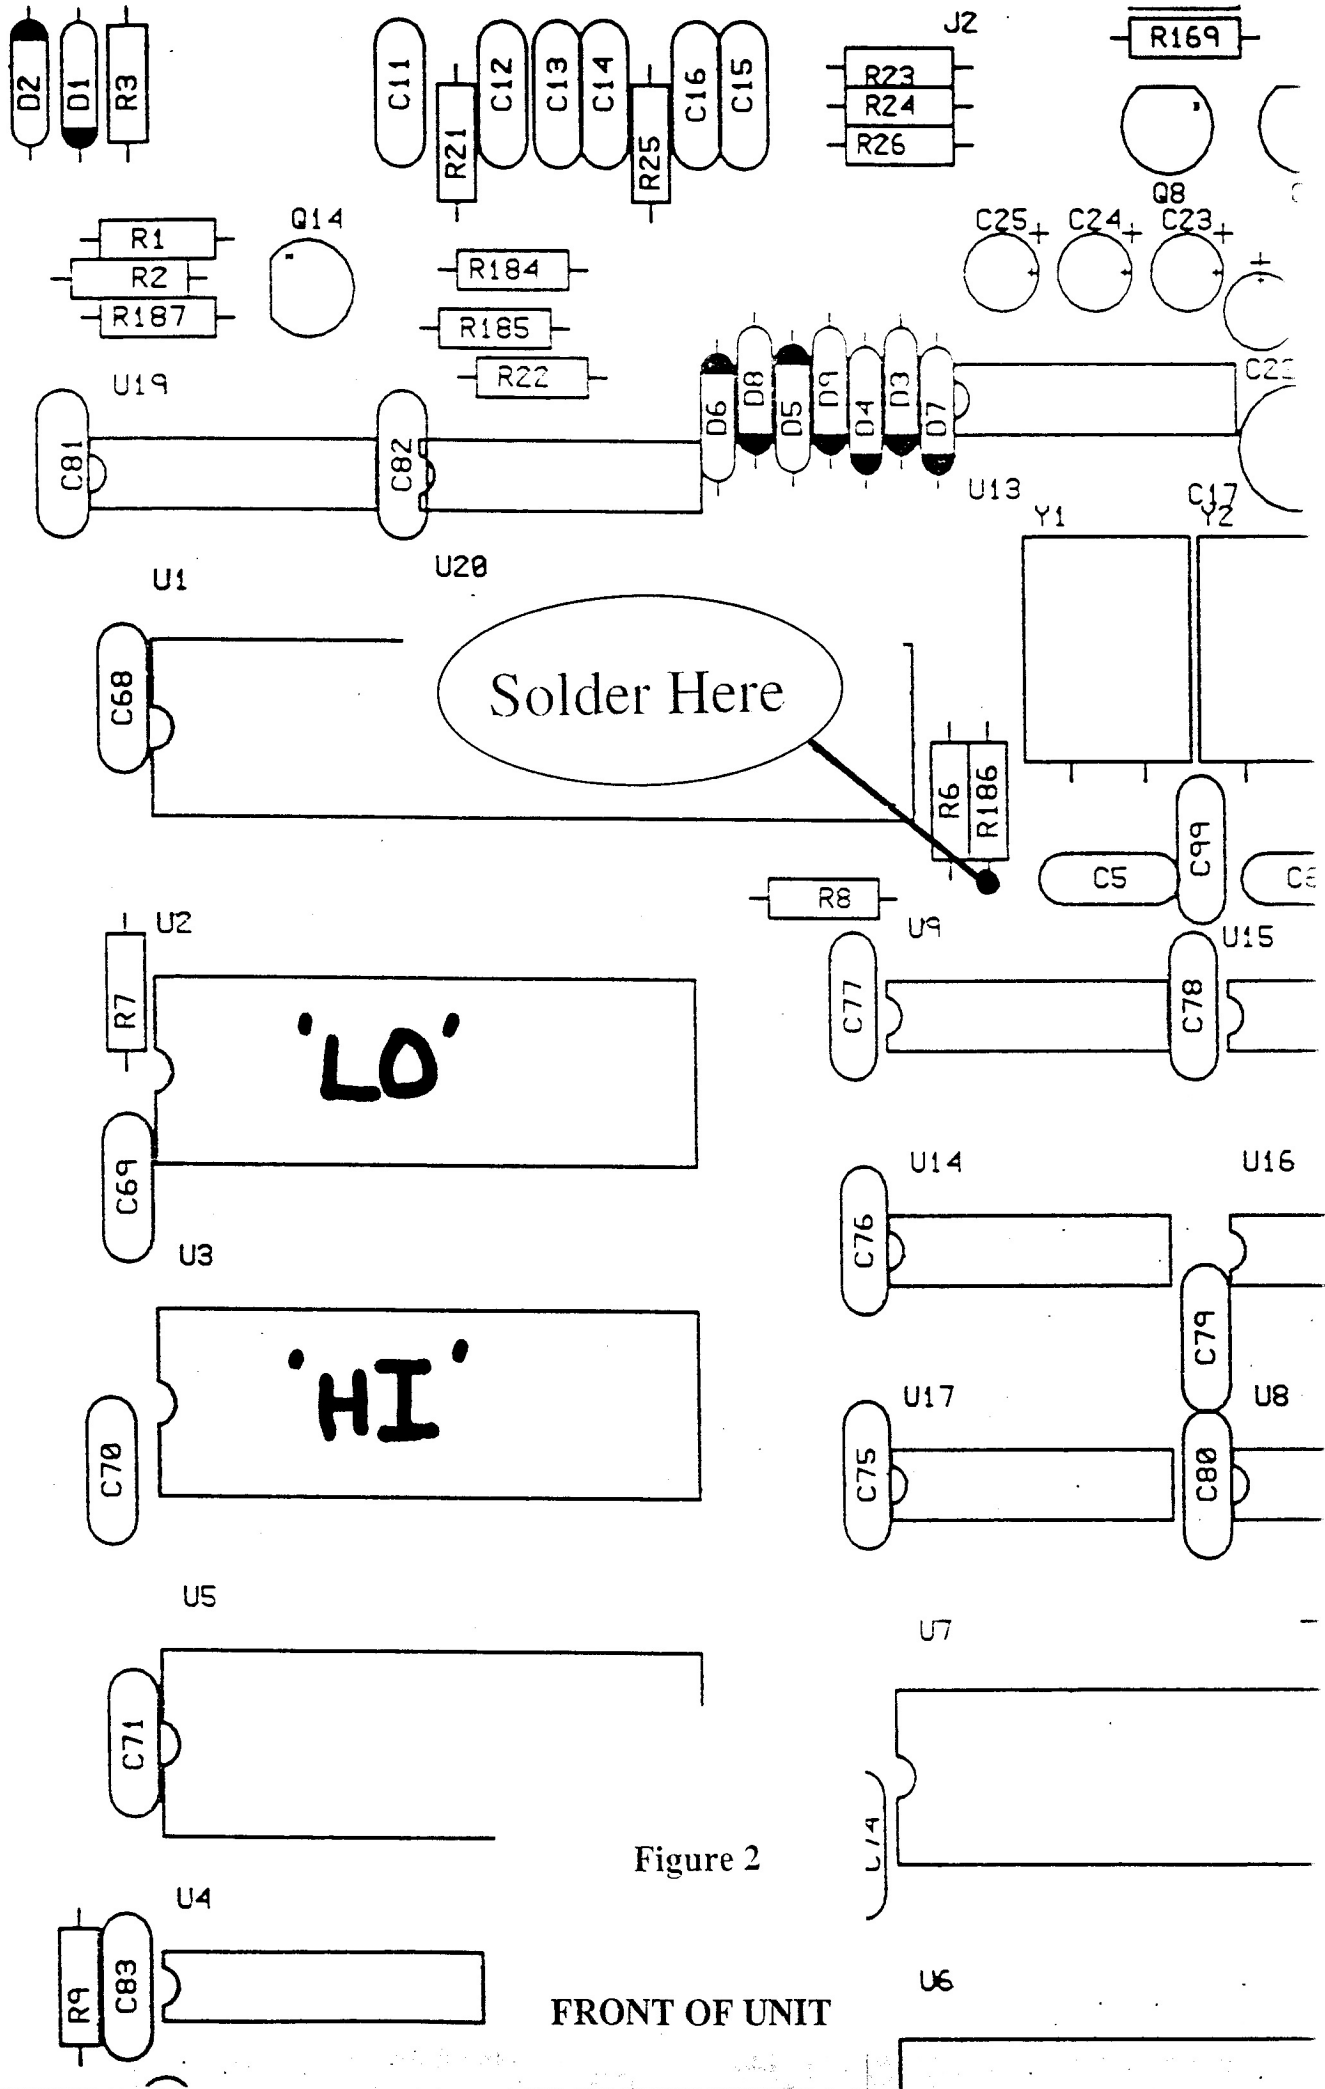

Figure 2
- 11) Starting with the left side wire on the DSP board. Attach this wire to R-186 (330 ohms Orange, Orange, Brown). Bend the wire in a "U" around lead of R-186, then press the ends of the "U" together using the needle nose pliers. If your PK-232 board is an "old" style board attach the wire to the left side of R-186 see fig 1. If your board is a "new" style board attaches the wire to the bottom (Toward the front) of R-186. Solder the connection. See fig. 2